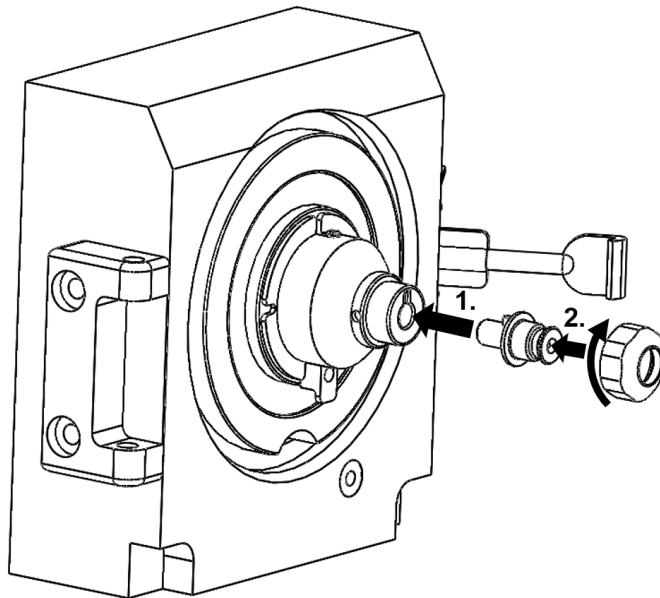

Figure 5: Installation of the source adapter.
- Mount the source adapter onto the inlet adapter. Make sure to guide the pin into the notch (see Fig. 5).
- Complete by installing the nut over the source adapter by screwing it clockwise onto the inlet adapter thread (see Fig. 5). Do NOT use tools e.g., pliers and tighten it only finger-tight!